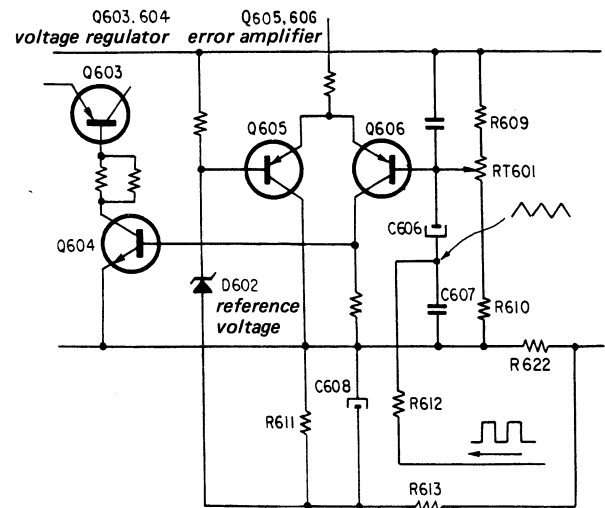
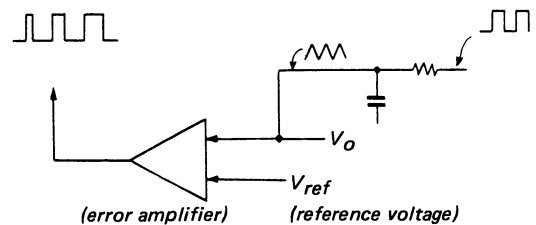

Fig. 9
Fig. 10
#### 4. PWM (Pulse-Width Modulation) Circuit (See Fig. 9)
- The circuit diagram in Fig. 9 is simplified to the circuit diagram in Fig. 10.